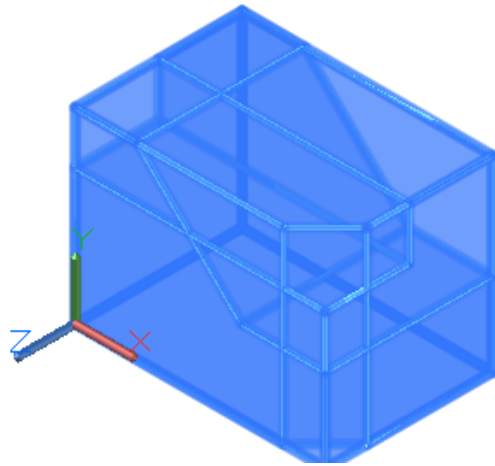

Figure Step 13
Step 13 Set the current visual style to 2D Wireframe. Enter the INTERSECT command, as shown below, to create the common solid from the three intersecting solids. (Figure Step 13)